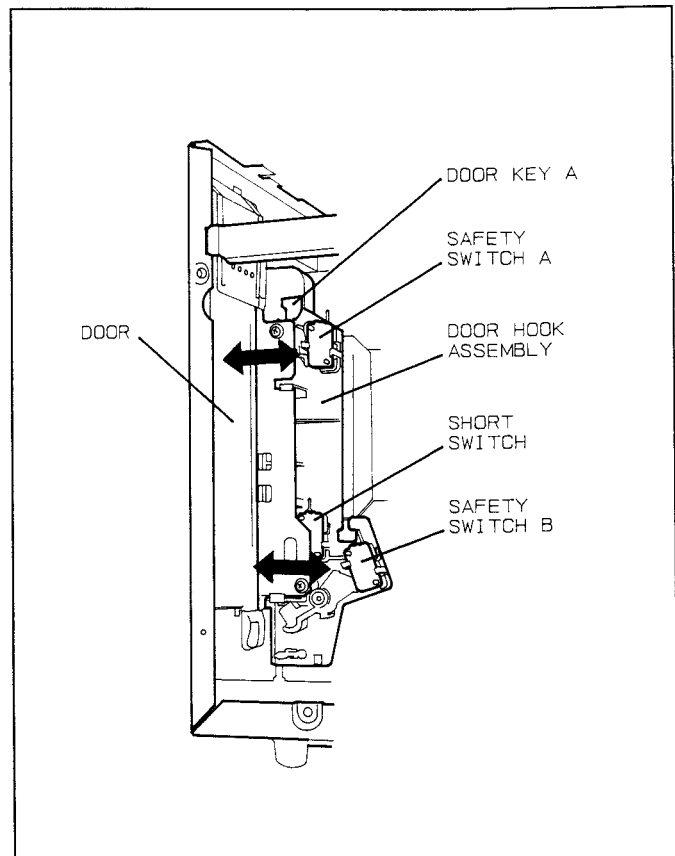

Fig. 38
(B) When mounting the door hook assembly to the oven assembly, adjust the door hook by moving it in the direction of arrow in **Fig. 38** so that the oven door will not have any play in it. Check for play in the door by pulling the door assembly. Make sure that the latch keys move smoothly after adjustment is completed. Securely tighten the screws holding the door hook assembly to the oven assembly.